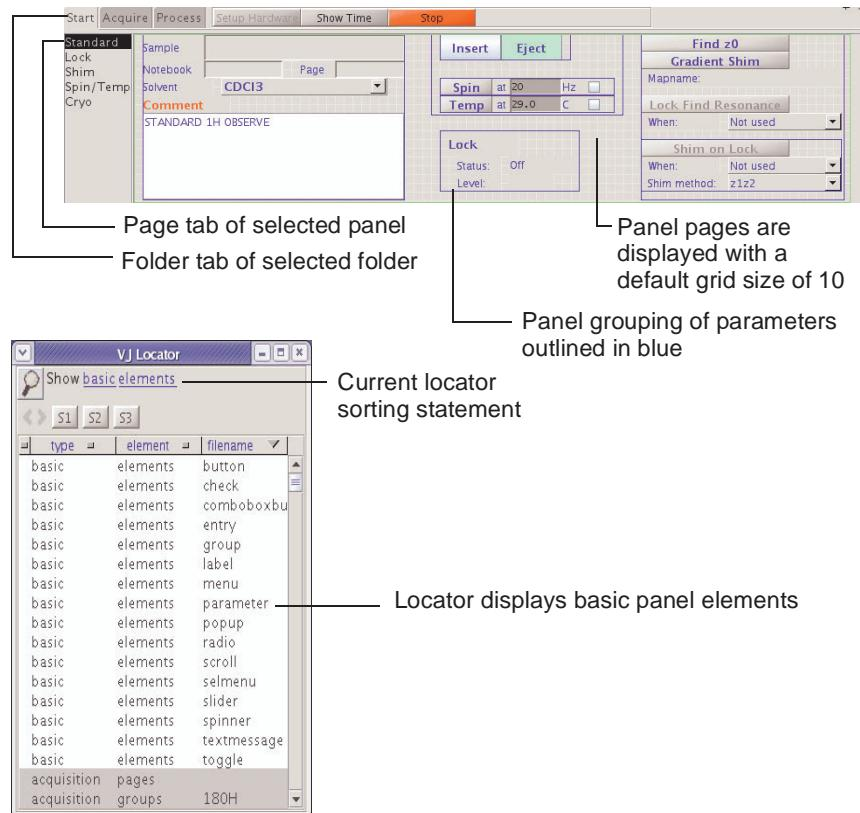

Figure 8. Panel and Locator when Panel Editor is Open
The current page is displayed in the edit mode with a grid, see Figure 8.
4. Select to **Locator** to display the locator panel, Figure 8, and the basic elements used to build a panel.